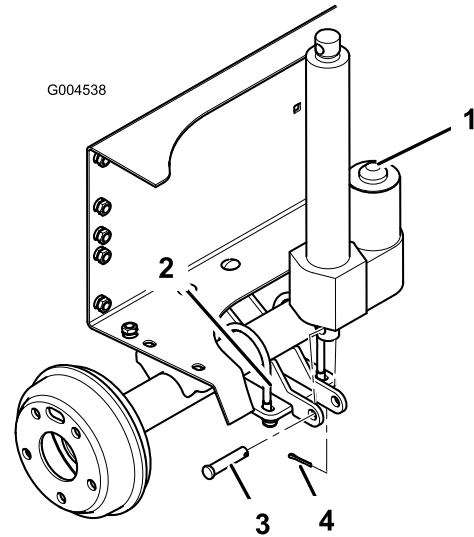

Figure 6
6. Mount the bottom end of the lift actuator to the lift cylinder support with a clevis pin and cotter pin. Position the components as shown in Figure 6.